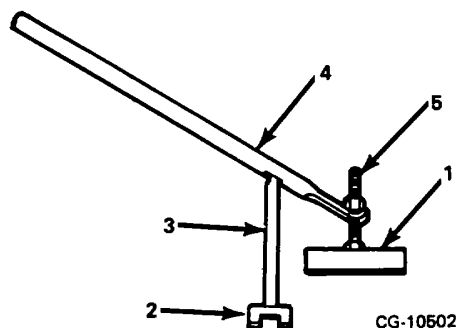

Figure 25. Tappet Depressor Tool KDEP 1505
25. Attach bracket of tappet depressor tool KDEP 1505 (Figure 25) to pump bottom edge using two screws (supplied with tool) and tighten. Using the double adapter (holds two tappets) insert adapter into tube end of small round bar.